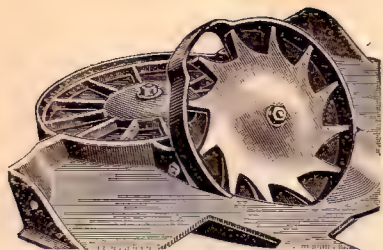

Fig. 115
**The Seed is surely put in.**—After the placing of the seed in the hopper it is then carried by means of an elevator wheel, and deposited in the corresponding pocket of the revolving feed wheel. See Fig. 115. We have found it necessary, in order to suit the different sized cuttings of the seed, to furnish three sizes of elevator wheels; one for small cut seed, P. 129; one for medium, P. 107; one for large, P. 126. The knowing of which wheel to use for the elevation of the different sized cuttings must be left to the judgment of the operator. When too much seed is deposited by the elevator wheel, use a smaller pocketed wheel; when not enough, use a larger pocketed wheel. In actual operation from sixty to seventy-five per cent. of the seed is found to be correctly fed, leaving for the feeder only the supplementing, and correcting the operation of the machine; taking out the pieces where they are doubled, and putting in where missed. This feed wheel carries each successive piece of potato over the potato tube and drops it through to the furrow below. This gives the assurance that the seed is actually deposited—there can be no speculation as to whether a row has any seed in it; there are no misses; no doubles; no trouble on hillsides. Neither can any injury result from contact of seed with fertilizer, as the former is deposited below the fertilizer, while the latter is also thoroughly mixed with the soil. **Fig. 115** clearly shows the method by which the seed is elevated and deposited into the revolving feed wheel. It is from this wheel as it revolves the boy makes the necessary corrections, taking out from its pockets one piece where there are two, and putting one piece in where there are none.